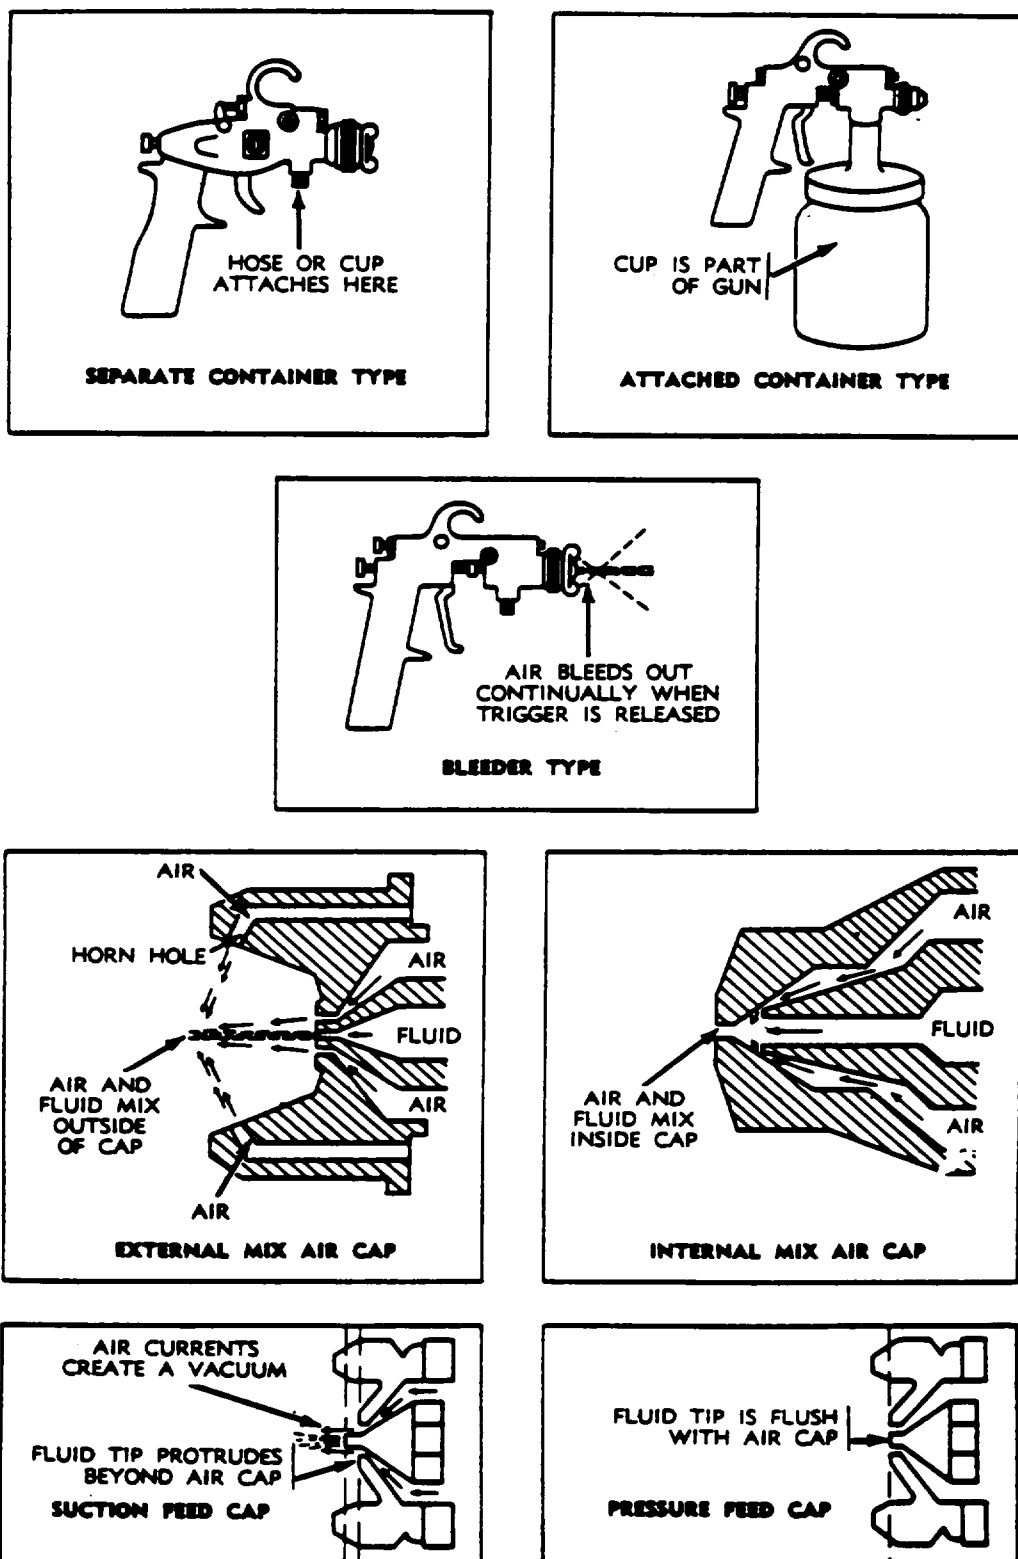

Figure 5-1. Spray Gun Types
*a. Definition.* A paint spray gun (see figure 5-1) is a mechanical means of bringing compressed air and paint together, atomizing or breaking up the paint stream into a spray, and ejecting it for the purpose of applying a coating.